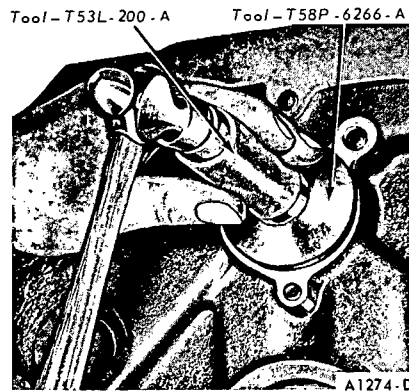

FIG. 50—Camshaft Rear Bearing Bore Plug Installation
5. Coat the flange of a new plug with oil-resistant sealer and install it with the flange facing inward (Fig. 50).